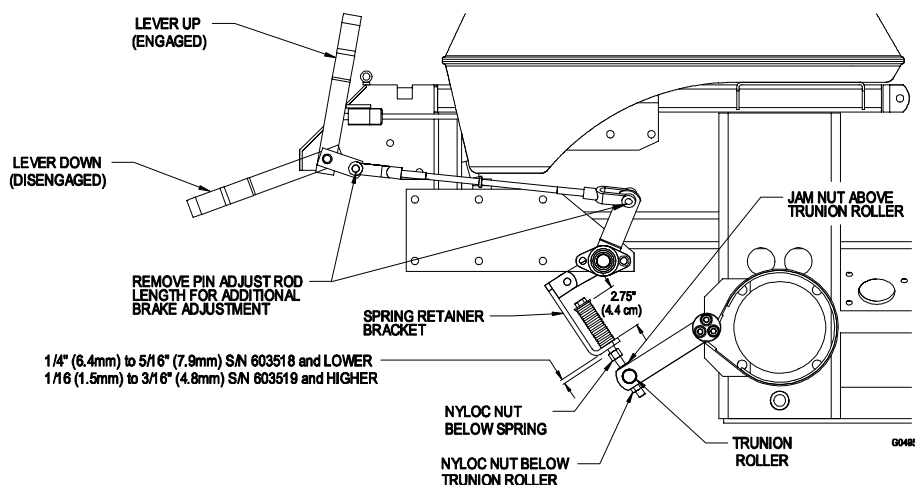

FIGURE 10
- g) Adjust anti-scalp rollers for Normal Operating Conditions. Place rollers in one of the positions shown in Figure 10. Rollers will maintain 3/4 in. (19 mm) clearance to the ground to minimize gouging and roller wear or damage.
- b) Measure the length of the spring. Measurement should be 2 3/4" (7.0 cm) between washers (see Figure 10).